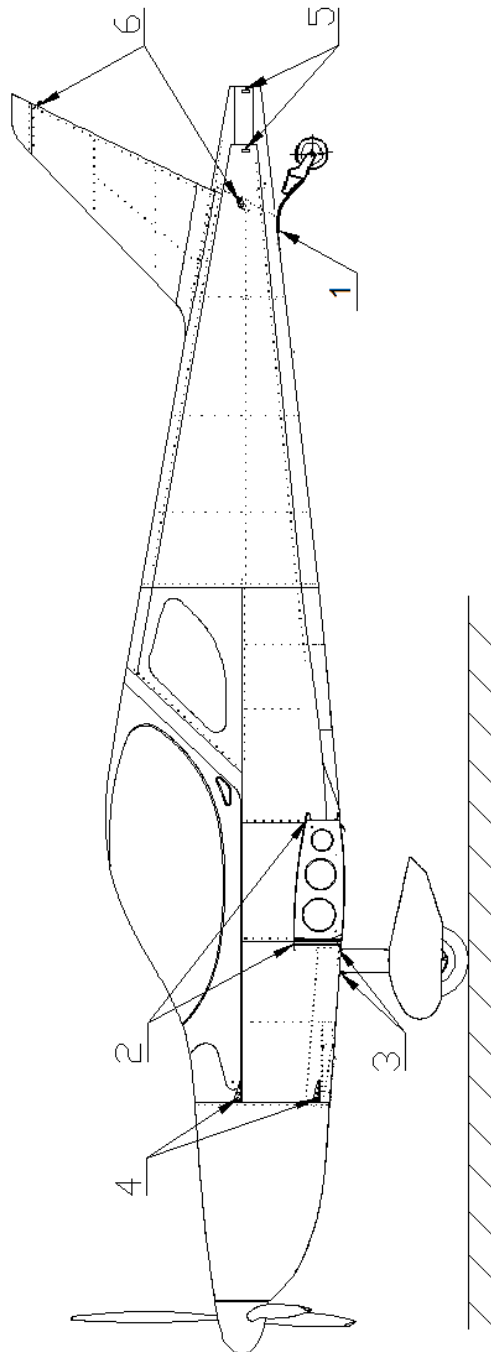

Fig. 3-1
The front part of the fuselage consists of bulkheads No.1 to 7 (see Fig. 3-1). Cockpit with adjustable seats is located between bulkheads No.1 and 7. The luggage compartment is located behind the seats. Center section of wing (2) consists from the main spar attachments located as bulkheads No.3 and the rear spar attachments located on the bulkhead No.5, main landing gear attachment points (3) are located behind main center wing spar, top engine mount attachment points (4) are located on the cross channel behind bulkhead No.1, bottom attachment points are located on the cockpit floor and connected with reinforcement channels under the floor.
The rear part of fuselage is located between bulkheads No.8 and No.14 (see Fig. 3-1). It is a semimonocoque structure formed by stiffeners and aluminum skins. The rear part of fuselage is of elliptic section covered by aluminum sheets. The fin with rudder attachments (5) and stabilizer attachments (6) is an integral part of the rear part of the fuselage. The bulkheads No.13 and 14 form the stabilizer attachment points. The tail wheel landing gear is attached to the rear part of fuselage.
The cockpit (see Fig. 3-1) is located in the front part of the fuselage between the bulkheads No.1 and 5. The instrument panel is located on the bulkhead No.2. In the middle of the cockpit there is a middle console with control elements. The cockpit is equipped with two adjustable seats..